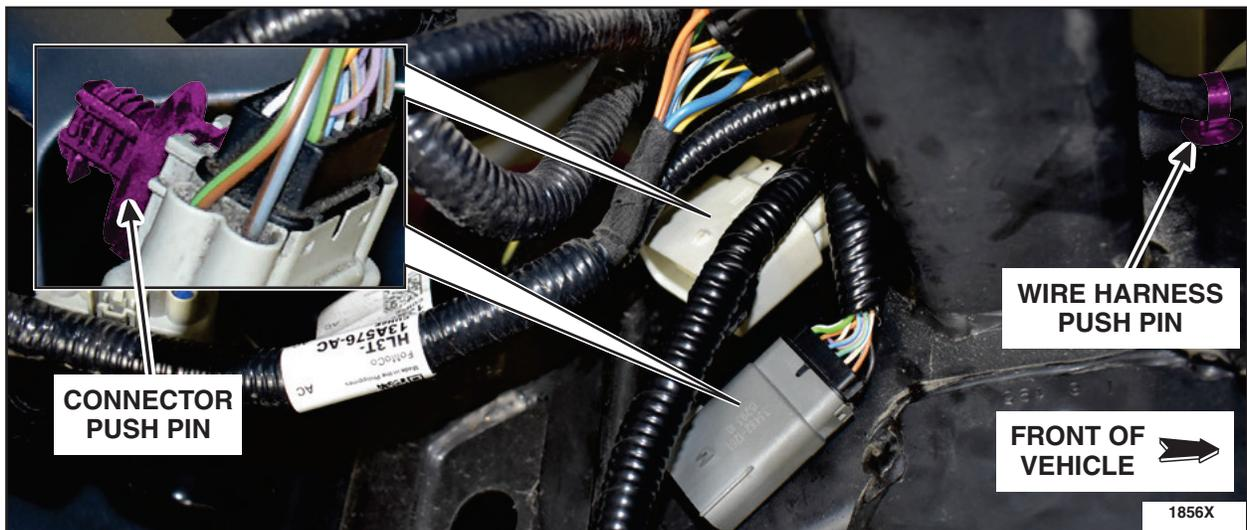

FIGURE 26
29. Attach the two connectors push pin and the wire harness push pin retainers. See Figure 26.